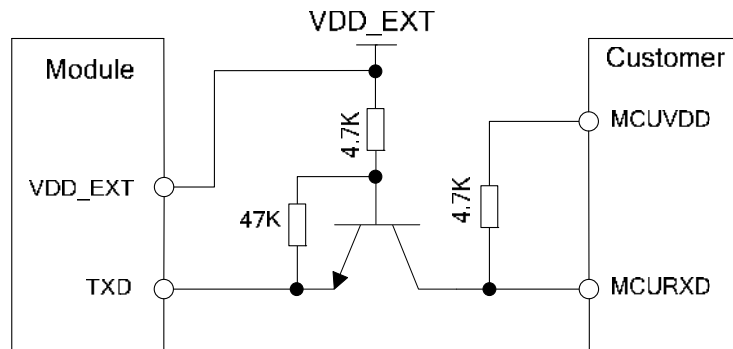
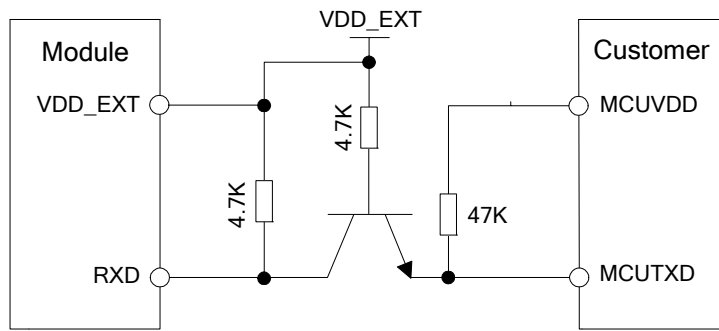

Figure 22: TX level converting by transistor
Figure 23: RX level converting by transistor
**Note:** The recommend Transistors' part numbers are 2SC4617TLR and PBHV8115Z. when update firmware via the TXD/RXD circuit as figure 22 and figure 23 shows, customer should make sure the VDD\_EXT has voltage output, or a external LDO should be added to power VDD\_EXT.